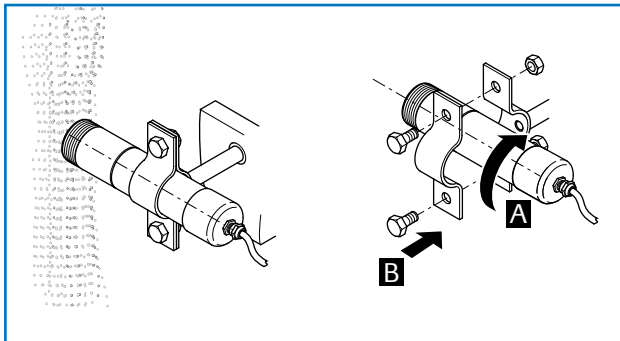

Fig. 5: Mounting with pipe clamp
- mounted by means of a pipe clamp (Fig. 5)